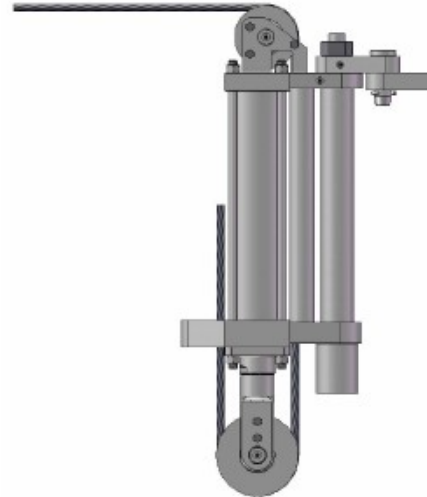

Figure 13
2) Remove both of the sheave guards. 3) Feed the line around the fixed end of the sheave (shown top in Figure 13), down through the wireline guide and around the rod end sheave and back up through the slot in the cylinder head. 4) Pull the line through to remove the slack. 5) Maintaining no slack in the line, form a loop as shown in Figure 13, feeding the slack end back through the cylinder head. 6) Place the wireline wedge in the loop and in the opening in the cylinder head (Figure 15) 7) Hold the tong in the